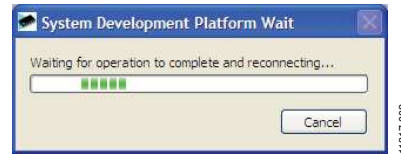

Figure 2. Connection Message
3. Click **Start > All Programs > Analog Devices > AD56x(R)**. Each **AD5696R**, **AD5696**, **AD5694R**, and **AD5694** has its own version of software. Click the appropriate one to run the software. As the software connects to the evaluation board, the message in Figure 2 displays.